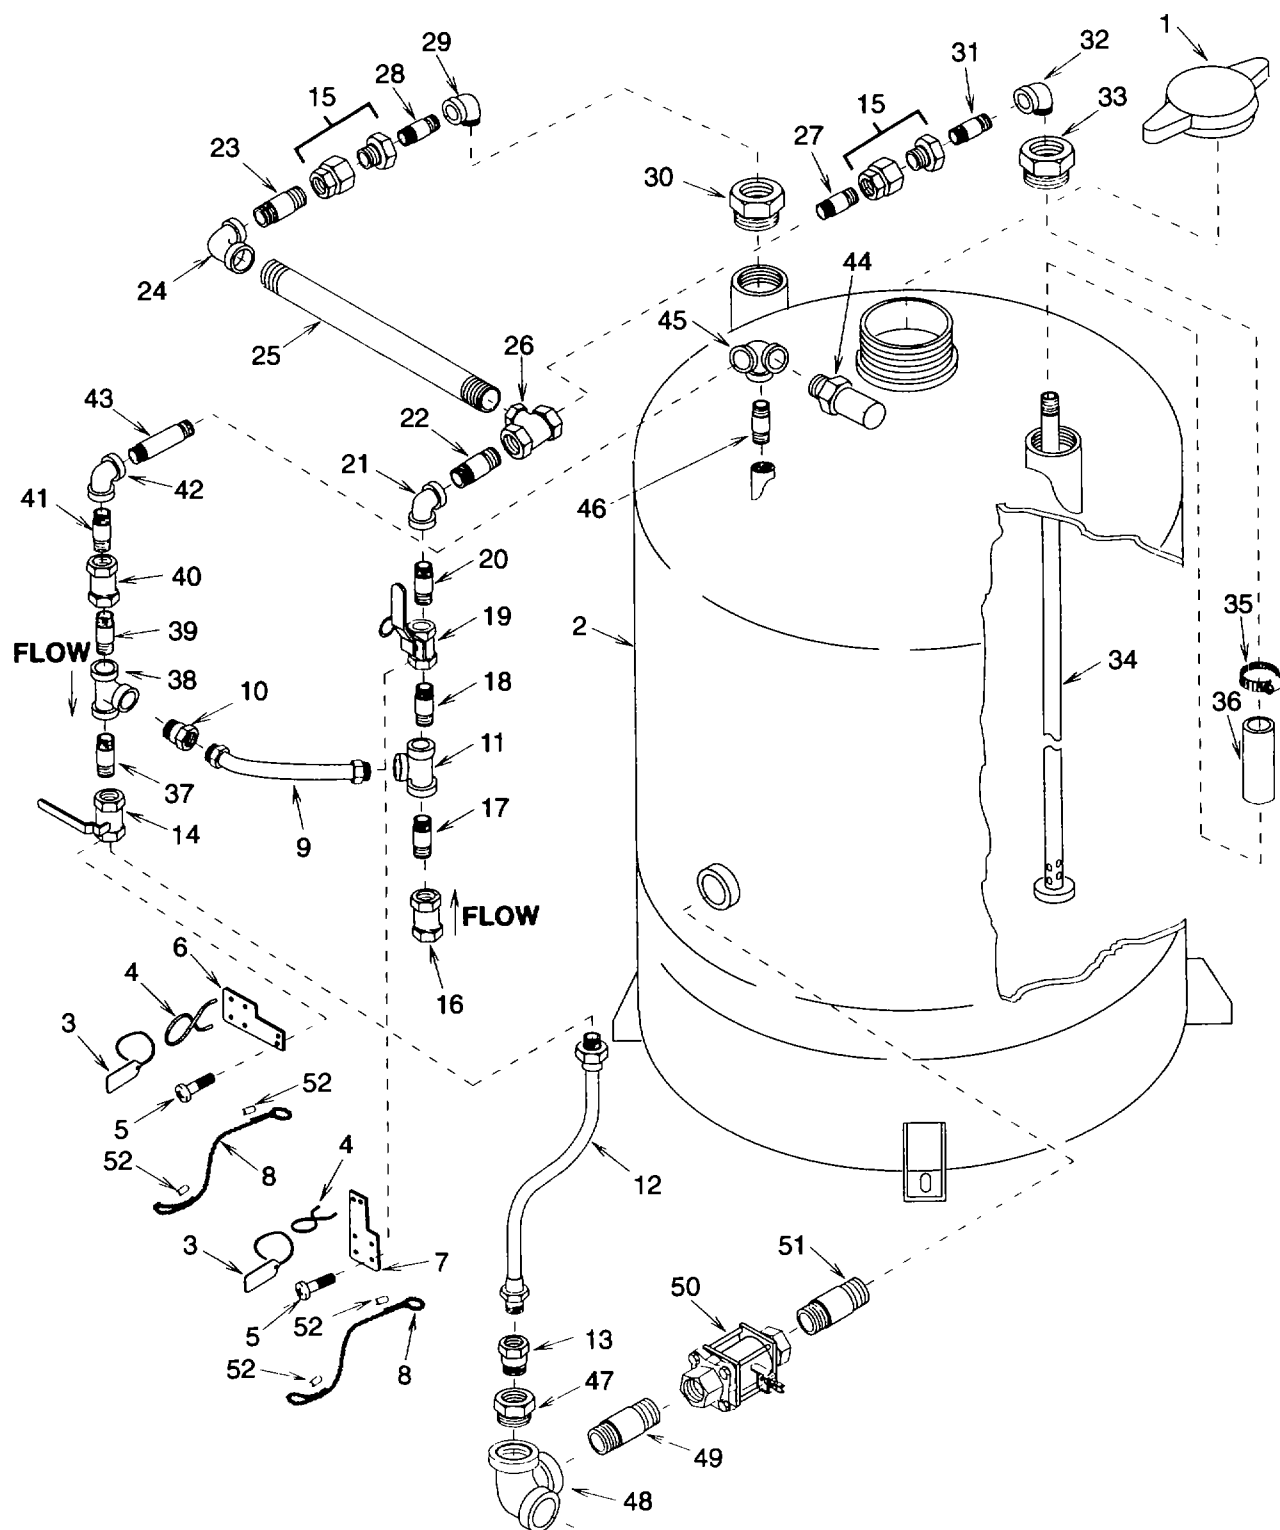

Figure 4-20. Dry Chemical Tank Assembly
b. Disassembly (See figure 4-20.)
- (1) Remove fill cap (1).
- (2) Empty all dry chemical from tank (2).
- (3) Break two strip ties (3) and pull two retaining clips (4).
- (4) Remove two screws (5) and ball valve mounting bracket (6).
- (5) Remove two screws (5) and ball valve mounting bracket (7).
- (6) Slip cable (8) off each retaining clip (4).
- (7) Cut cable (8) from valve mounting brackets (6) and (7). Discard cables
- (8) Disconnect hose assembly (9) from swivel fitting (10) then from tee fitting (11).
- (9) Disconnect hose assembly (12) from swivel fitting (13) then from ball valve (14)
- (10) Separate two union (15) halves.
- (1) Wrap antisieze tape around threaded ends of nipples (51) (fig. 4-20) and (49) and male ends of reducer (47) and swivel fitting (13). Connect nipple (51), valve (50), nipple (49), elbow tee (48), reducer (47), and swivel fitting (13).
- (2) Wrap antisieze tape around threaded ends of nipples (46), (43), (41), (39), (37) and male ends of pressure relief valve (44) and swivel fitting (10). Connect nipple (46), elbow tee (45), pressure relief valve (44), nipple (43), elbow (42), nipple (41), check valve (40) with flow arrow pointed away from nipple (41), nipple (39), tee fitting (38), swivel fitting (10), nipple (37), and ball valve (14)
- (4) Wrap antisieze tape around threaded end of dip tube (34) (fig. 4-20) and connect to reducer (33).
- (5) Wrap antisieze tape around threaded ends of nipple (31) and male end of reducer (33). Connect reducer (33), elbow (32), nipple (31), and union (15) half.
- (6) Wrap antisieze tape around threaded ends of nipple (28). Connect reducer (30), elbow (29), nipple (28), and union (15) half.
- (7) Wrap antisieze tape around threaded ends of nipples (25), (23), and (27). Connect union (15) half, nipple (27), tee fitting (26), nipple (25), elbow (24), nipple (23), and union (15) half.
- (8) Wrap antisieze tape around threaded ends of nipples (22), (20), (18), and (17). Connect nipple (22), elbow (21), nipple (20), ball valve (19), nipple (18), tee fitting (11), nipple (17), and check valve (16) with flow arrow pointed toward nipple (17).
- (9) Connect two union (15) halves.
- (10) Wrap antisieze tape around one threaded end of hose assembly (12) and connect to ball valve (14). Connect loose hose assembly (12) end without antisieze tape to swivel fitting (13)
- (12) Wrap antisieze tape around one threaded end of hose assembly (9) and connect to tee fitting (11). Connect loose hose assembly (9) end without antisieze tape to swivel fitting (10).
- (13) Push new cable (8) end through a new cable sleeve (52) and then loop through hole in valve mounting bracket (6). Push cable end back into cable sleeve. Secure by crimping sleeve. Repeat for charge valve mounting bracket (7).